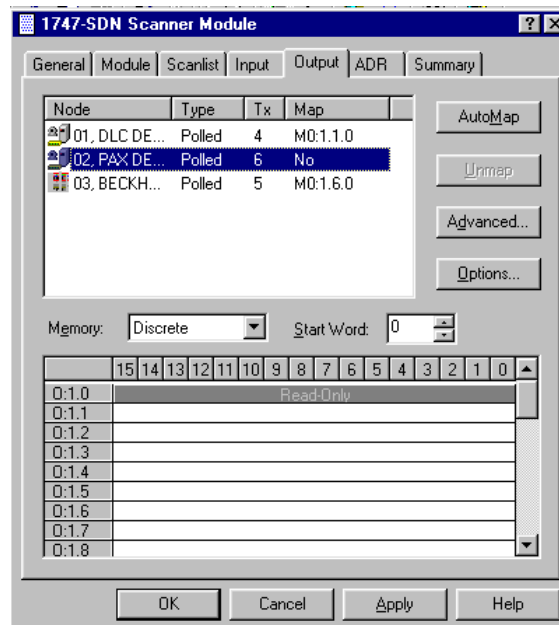

Figure 8
6. Select the **Output** tab from the configuration menu and follow the same procedure to map the output data of each device. (Fig 8)